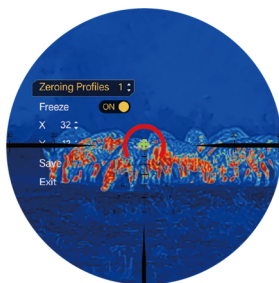

Figure 3
8. In [Clip-On Zeroing], use [X] and [Y] to adjust the position of HYDRA-LRF's screen display so that the POI + on the screen matches the center of your glass optic's reticle, as shown in Figure 3.